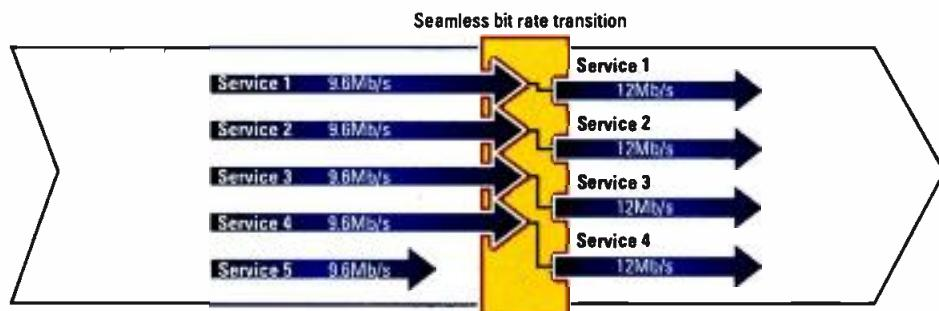

Figure 2. Example of a 48Mb/s multiplex of five services being modified to four services
- The operator assigns a new 12Mb/s bit rate to each encoder service. The new service bit rate is applied almost instantaneously, in this case allowing an enhanced quality for those services that remain in the multiplex. (See Figure 2.)